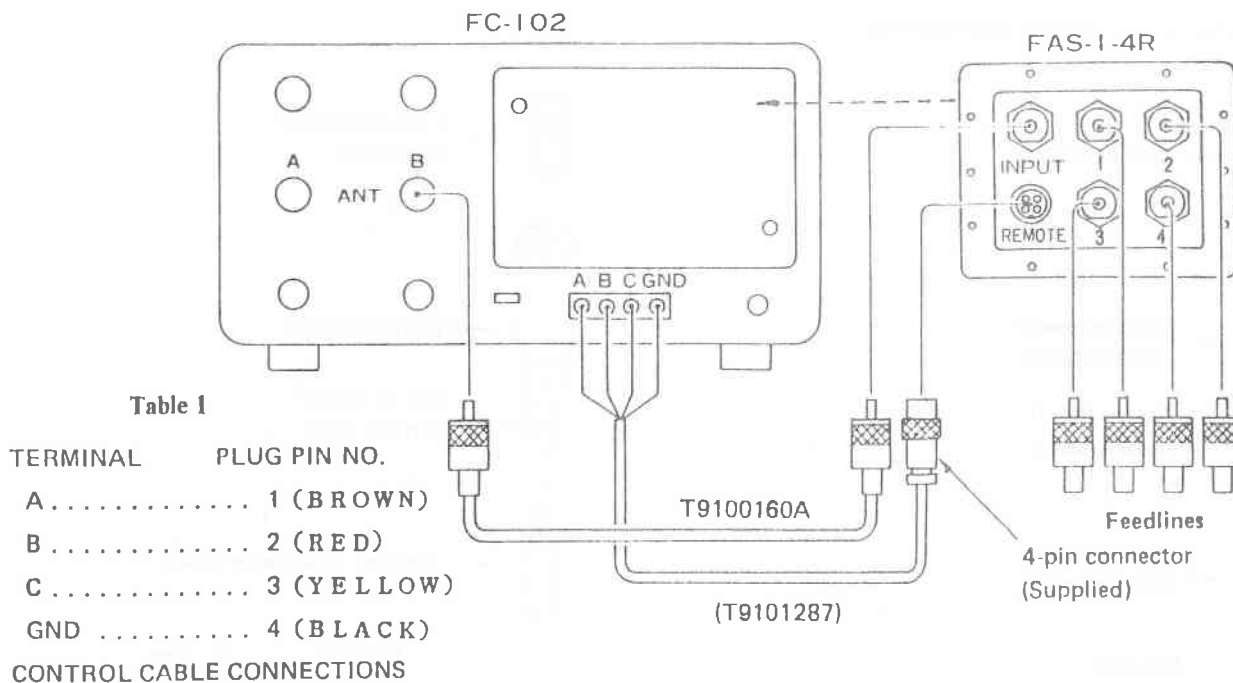

Figure 3
3. Using the short coaxial jumper and 4-conductor interconnection cable, connect the ANT B terminal on the FC-102 to the INPUT coaxial terminal on the FAS-1-4R, and connect the wire ends of the 4-conductor cable to the terminal strip on the FC-102, securing the other end of this cable into the REMOTE jack on the FAS-1-4R as shown in Figure 3. Connect the antenna feedlines to jacks 1 through 4 on the FAS-1-4R.
Connect the FAS-1-4R to the FC-102 as described in step 3 of "Installation in the FC-102" and shown in Figure 3, using the interconnecting coaxial cable as the feedline, and cutting or extending the 4-conductor control cable as necessary.